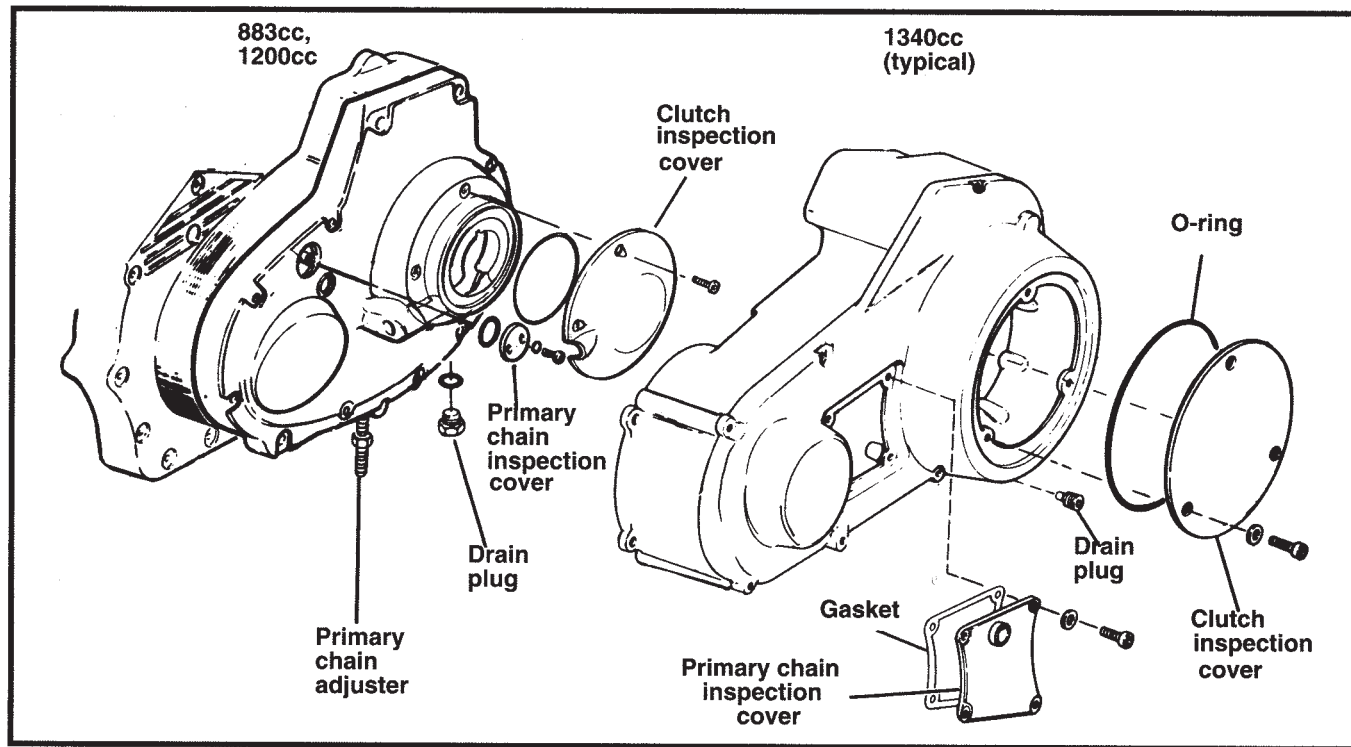

Figure 33. Primary Chaincase
2. See Figure 33. Remove screws and washers that secure clutch inspection cover.
See Figure 33. The drain plug is located under the clutch, on the underside of the chaincase. The filler access is the clutch inspection cover. To determine correct lubricant level in the transmission and chaincase compartments, proceed as follows: